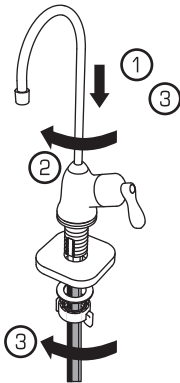

Fig. 20
2. **Press** Faucet tap spout into the main body (1) and **Screw** spout cap onto faucet body top (2) Unscrew to remove the wing nut and metal washer while keeping the rubber washer against the faucet body (Fig. 20).